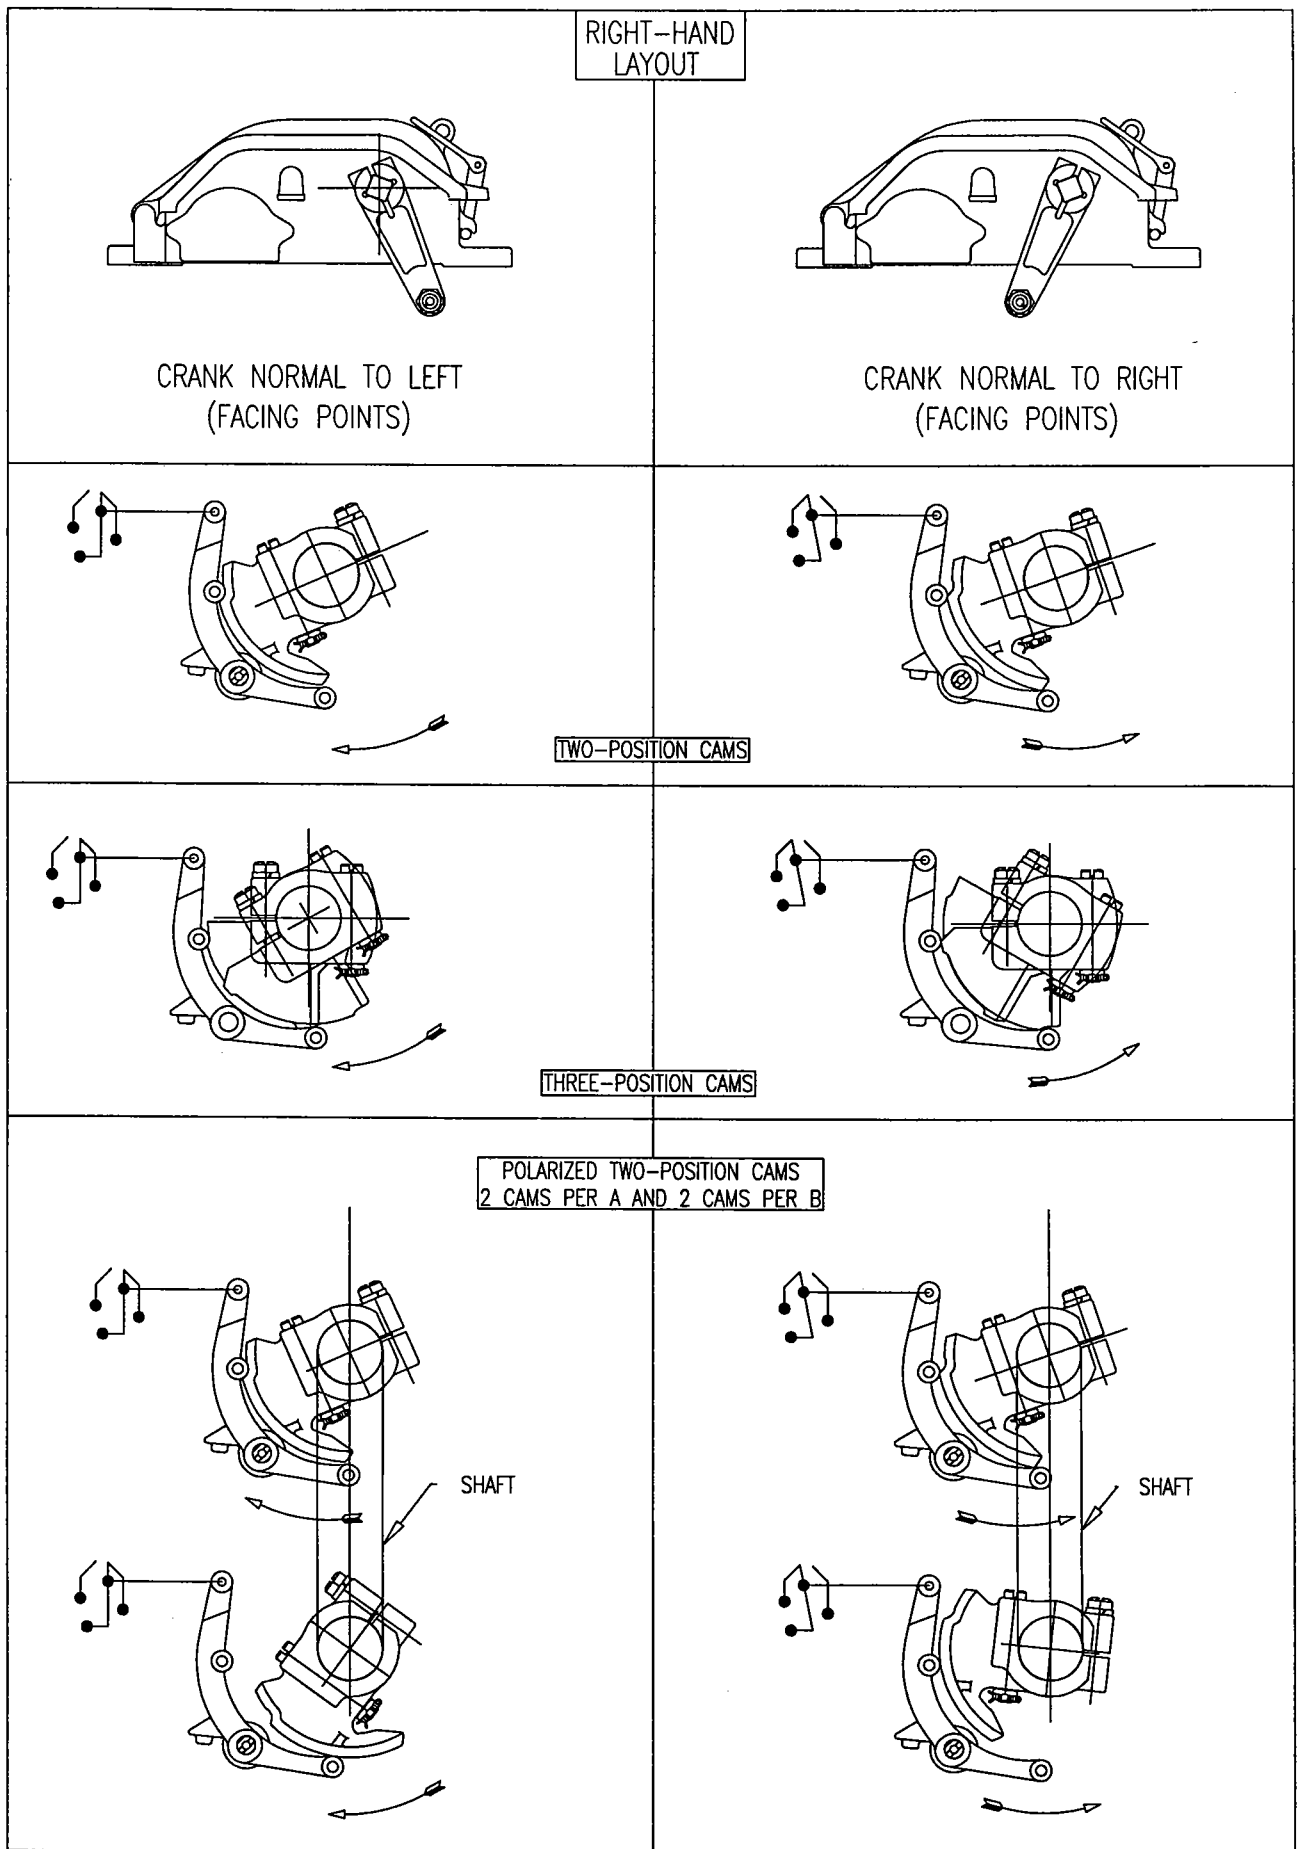

FIGURE 3-1
- C) Make an initial (rough) adjustment of the two pairs of cams (figure 3-1, polarized two-position cams) for a normal to the right, right-hand layout by performing steps (1) and (2), or for a normal to the left, right-hand layout by performing
Contact sets are numbered 1 through 4 from left to right, facing the terminal block. The cams controlling contact sets 1 and 2 are "A" cams and those controlling sets 3 and 4 are "B" cams. The positions of the A and B cam contact sets when the switch point is in the normal position for a normal-to-the-right and a normal-to-the-left installation for the polarized two-position cam application is shown in Figure 3-1.
Reverse position of each contact set is opposite to the normal position defined in the preceding NOTE and shown in Figure 3-1.
In a typical application, the 856 switch circuit controller is used to monitor the two positions of the switch points (normal and reverse). The switch points drive the operating crank (shown in figure 1-1) via a circuit controller operating rod. The operating crank in turn drives the camshaft, which has four individually adjustable cams mounted to it. Each cam is used to drive or release a spring loaded operating arm around a pivot. Force is transferred through an insulating link to the movable spring contact (wiper arm). When the operating arm is released as illustrated in figure 1-1, the wiper arm is contacting the inner contact spring. After the cam has driven the operating arm, the wiper arm is contacting the outer contact spring. Figure 3-1 shows the orientation of the operating crank, operating arms, cams, and contacts for both normal to the left and normal to the right conditions using 2-position or three position configurations. Note that in the typical application described in this manual, the four 2-position cams are arranged in two pairs with each pair oriented at a different position on the camshaft (polarized). In this arrangement presume that the switch points are driven from normal (position shown in figure 3-1) to reverse. When the switch points go past $\frac{1}{4}$ " away from the normal position, the pair of A contacts transfer; when the switch points are $\frac{1}{4}$ " away from the reverse position the pair of B contacts transfer. For a reverse to normal move, the B contacts transfer just beyond $\frac{1}{4}$ " from reverse and A contacts transfer at $\frac{1}{4}$ " from normal.
4.4.1 Cam Adjustments (see Figure 3-1)